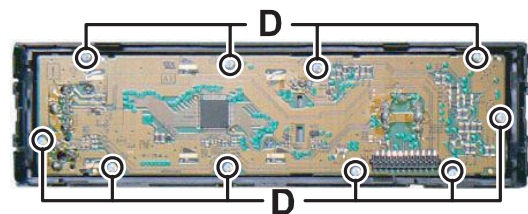

Fig.6
3.1.4 Removing the Switch unit (See Fig.6)